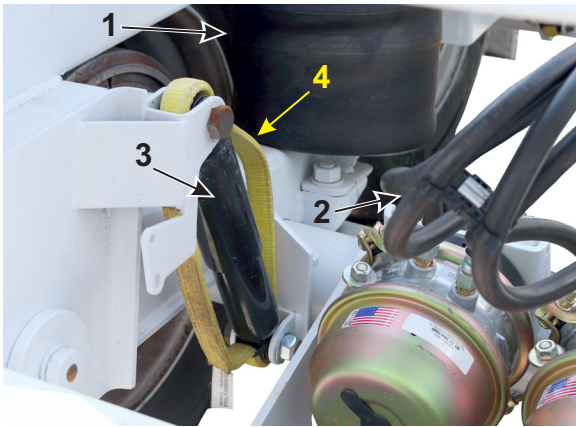

Figure 4-15 – Shock Absorber Safety Strap
- a. Check the condition of the air bags (1, Figure 4-15) and air lines (2, Figure 4-15) to all air bags. If any wear or damage is noted, the trailer is required to be taken out of service until repairs have been completed.
- b. Check the shock absorber safety strap (4, Figure 4-15) around each of the rear axle shock absorbers (3, Figure 4-15) for signs of wear or damage. If any is noted, these straps must be replaced before continuing trailer operation.